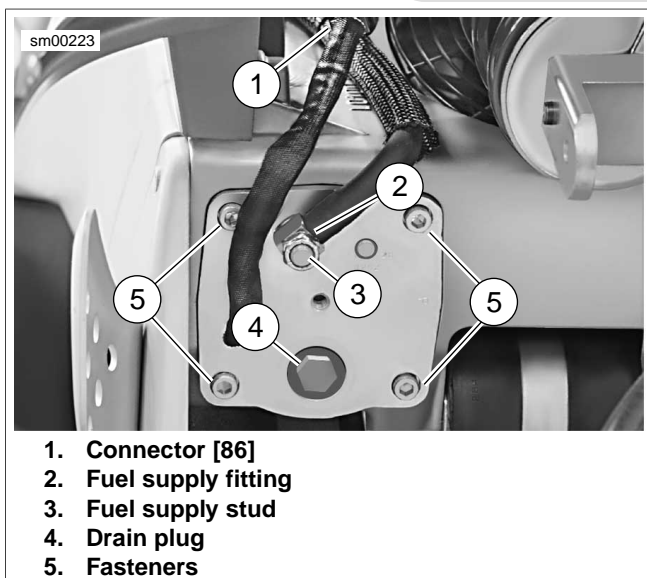

Figure 4-30. Fuel Pump Location
- a. See Figure 4-30. Disconnect the 4-place fuel pump connector [86] (1). Connector is located inside the left rear portion of the fuel tank/frame.